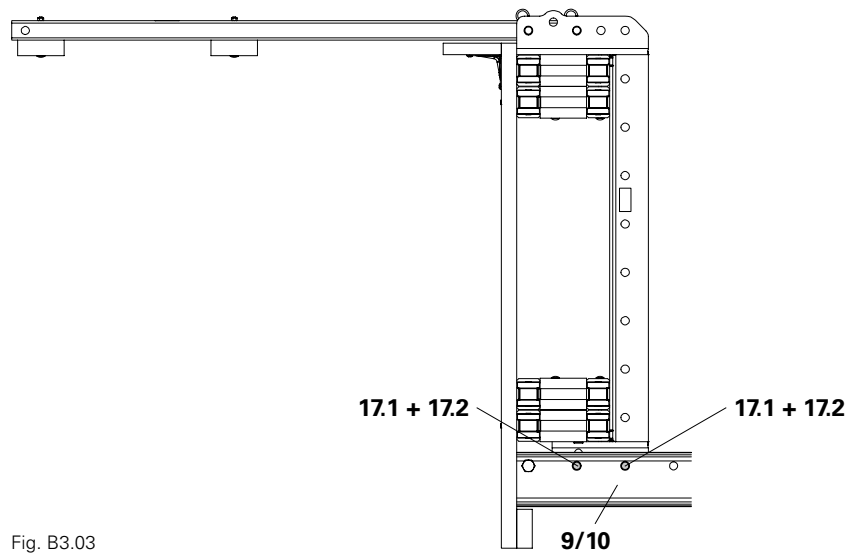

Fig. B3.03
3. Bolt Platform Beam SCS 120 (**17**) using 2x fitting pins $\varnothing 21 \times 120$ (**17.1**) per strongback (**9/10**) respectively and secure with cotter pins 4/1 (**17.2**). (Fig. B3.03)